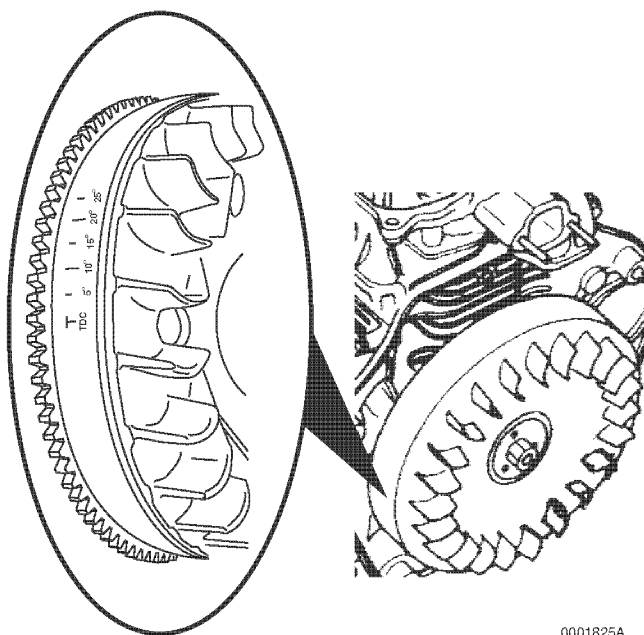

Figure 6-29
6. Rotate the flywheel to position the existing TDC mark at approximately 90°BTDC (**Figure 6-29**).
14. The mid point (**Figure 6-32, (2)**) (divide the distance by 2) of the distance measured is the new TDC cooling fin mark. Use a scribe or fine point marker to mark this position on the cooling fin as the new true piston TDC. **Figure 6-29** illustrates an example.